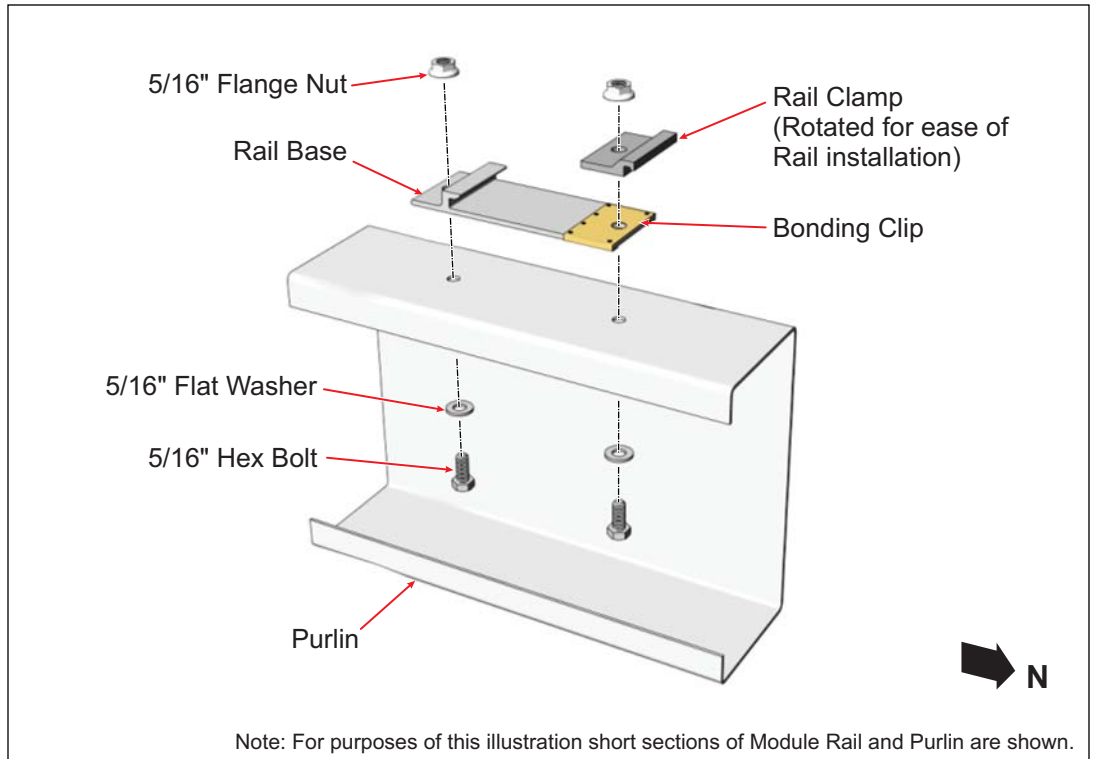

Figure 4: Attaching the Rail Base and Clamp to Purlin
The Bonding Clip is assembled as shown in Figures 4 and 5 when used with a purlin. (See Figures 4 and 5)
- A. Install Module Rail ensuring that it nests into the Rail Base as shown in Figure 4.